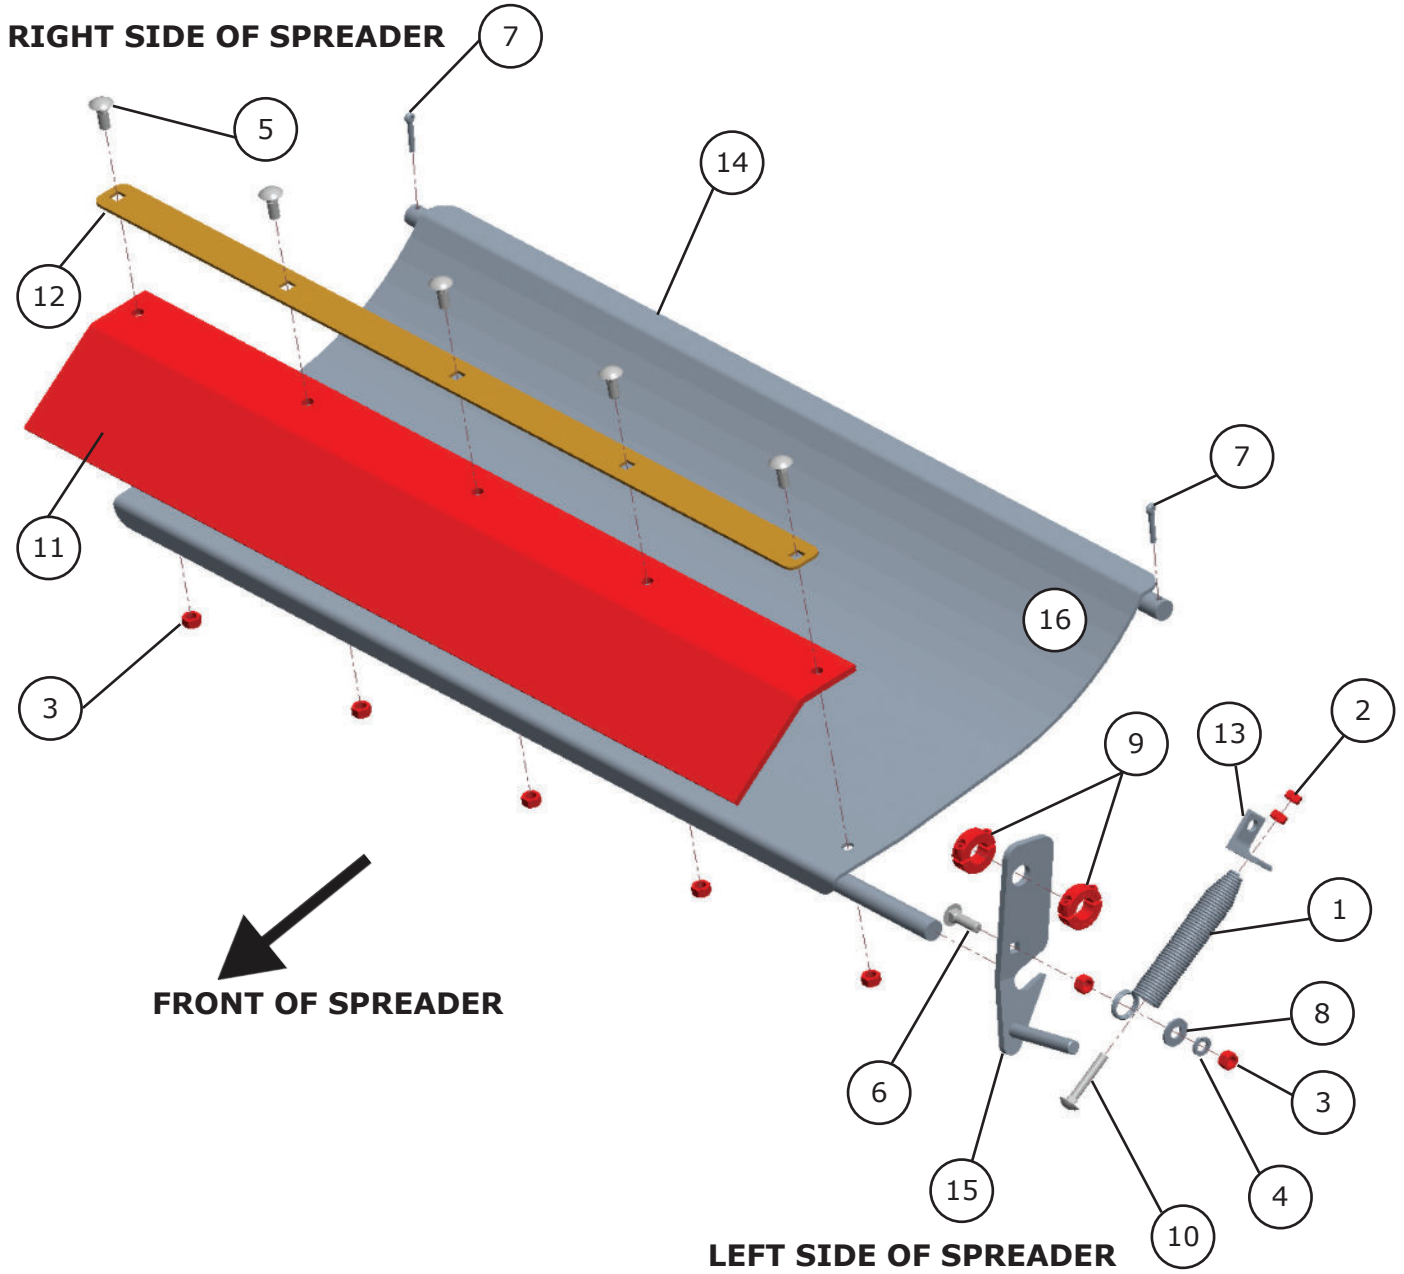

Figure 45.3
5. Once all 4 bolts are tightened securing the End Gate to the spreader, raise the End Gate and re-attach the left chain guard and secure with bolts, lockwashers and nuts using a 9/16" wrench (or socket set) **(Figure 45.3)**.